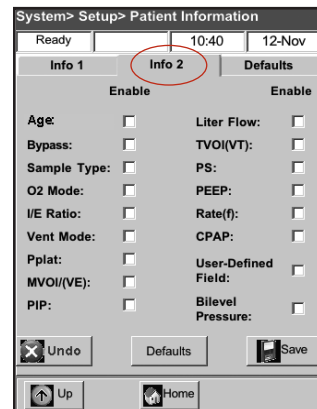

Figure H-8: System > Setup > Patient Information > Info 2 screen
6. Tap the **Info 2** tab, and then tap each desired option (Figure H-8):